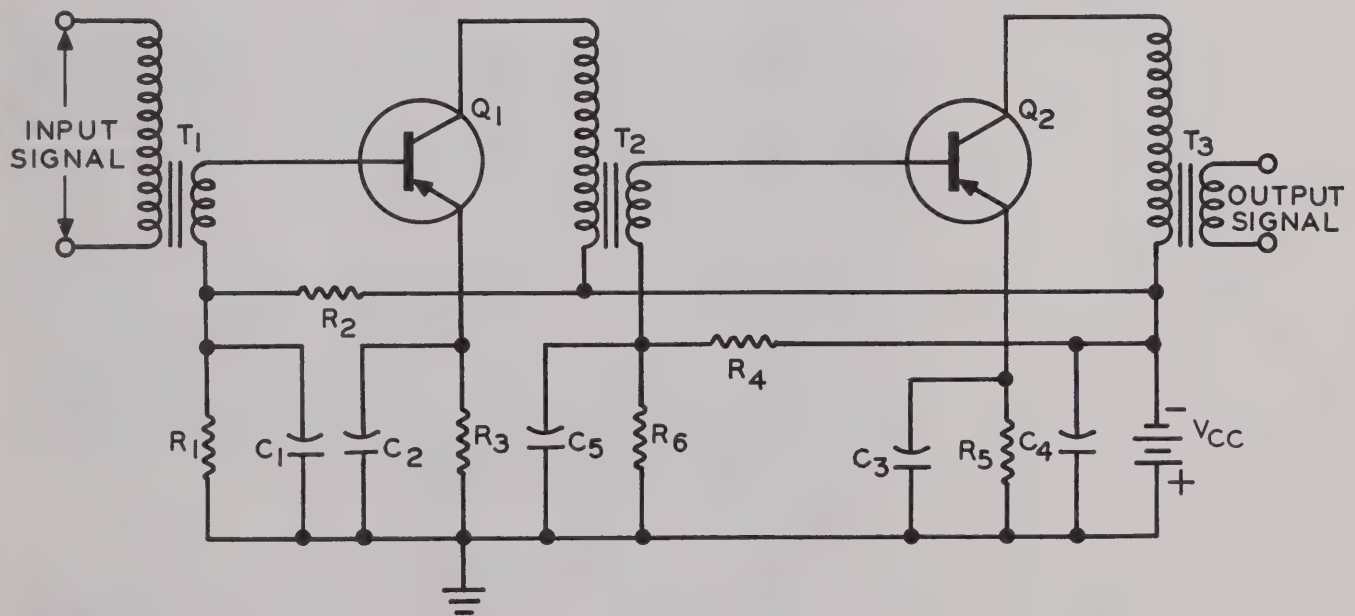

Figure 23
Figure 23 shows an amplifier using **TRANSFORMER COUPLING**. The signal applied to the input terminals is coupled by transformer T_1 to the base of transistor Q_1 . The output of the Q_1 stage is coupled by T_2 to the second stage, and T_3 couples the Q_2 stage output to the amplifier output terminals. In this circuit, the transformers are usually of the voltage step-down (and current step-up) type.
The small signal applied to the input terminals is increased in magnitude as it passes through each stage. The output may be either a large signal current or a large signal voltage, depending upon the load requirements. Transformer coupling has the advantage of providing a good impedance match between the high output impedance of one stage and the low input impedance of the next stage. The transformer turns ratio is selected to provide the desired impedance match. A transformer that steps down voltage also steps down impedance. Although the voltage ratio varies with the turns ratio, the impedance ratio varies with the square of the turns ratio. As an example, assume that the CE transistors of Figure 23 have an input impedance of 1 k Ω and an output impedance of 50 k Ω (Figure 4). A transformer such as T_2 in Figure 23 would therefore require a turns ratio of:
41. Draw a circuit like that of Figure 23 using NPN transistors.
43. What is the function of C_1 in Figure 23?